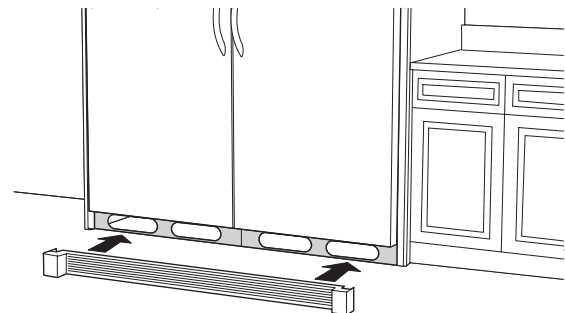

Figure 18
- Attach metal toe grill (D) using the screws saved during removal of the plastic grill panel(s). It may help to **open door of each unit** to aid alignment of screws. Run screws through the left-most and right-most grill holes and tighten until slightly snug. **Adjust so the top of toe grill is parallel with the bottom of both door(s).** For a dual unit installation, install **two inner screws**. Tighten all screws. See Figure 18.